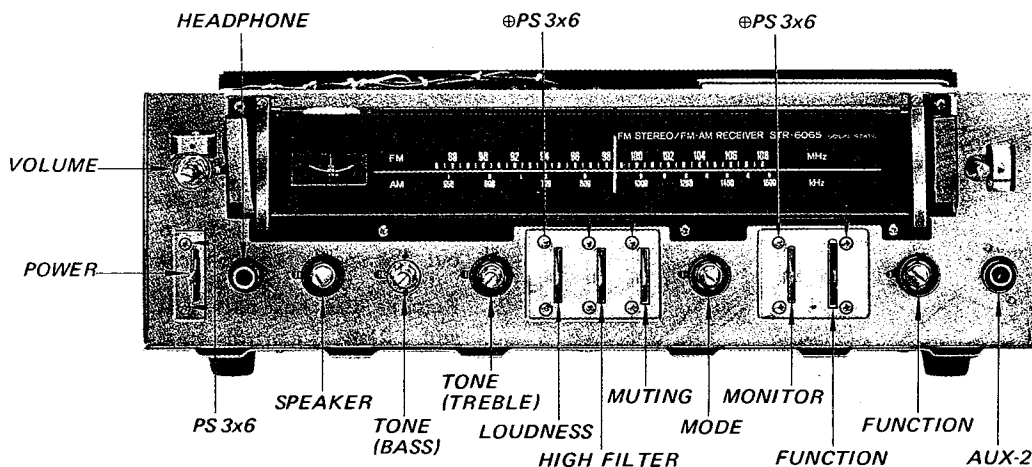

Fig. 2-16. Control and switch replacement
Prepare for replacing any of the controls or switches by removing the wooden case as described in Procedures 2-3 and 2-4. Refer to Fig. 2-16.
1. Remove the two screws ($\text{Ø} PS 3 \times 6$) securing switches to the front subchassis as shown in Fig. 2-16.
2. Remove the hex nuts that secure the switches to the front-subchassis as shown in Fig. 2-16.